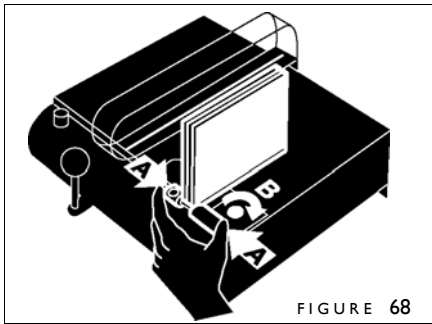

FIGURE 68
NOTE: Figures 68 through 72 are the same instructions as printed on the Scorer.
2. After it has cooled, place your bound book block between the Book Thickness Rings (figure 68). Push the two rings together (A) and tighten the Book Thickness Locking Knob (B). Remove your book block.